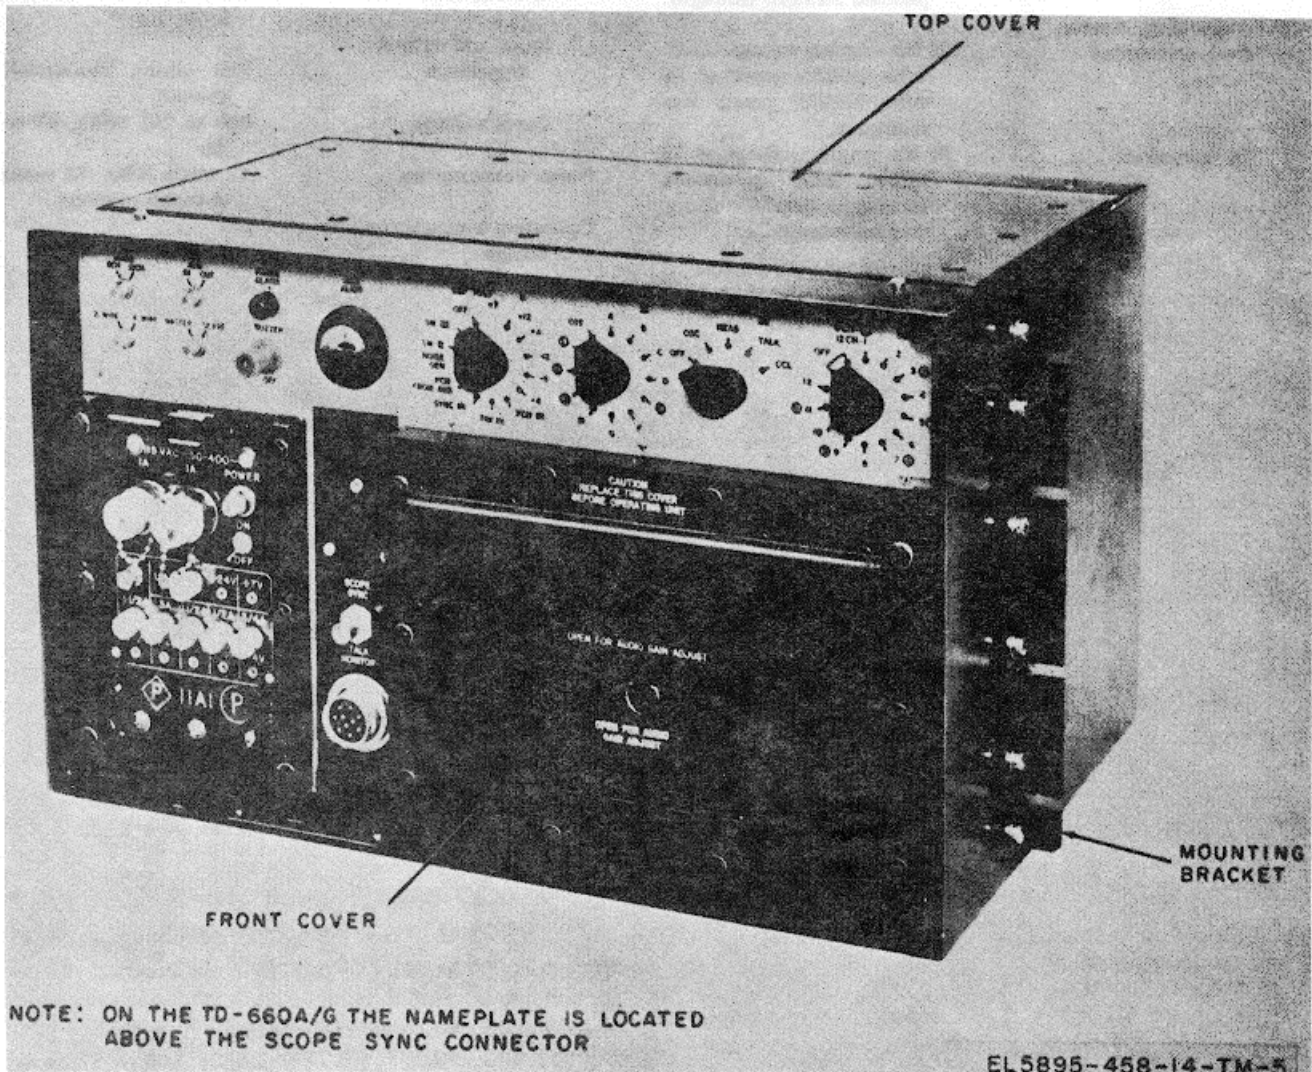

Figure 3-4. Multiplexer TD-660/G.
a. Use. Multiplexers TD-660/G or TD-660A (fig. 3-4) convert 6 or 12 four-wire voice-frequency (vf) channels to a tdm-pcm signal in their transmit sections and vice versa in their receive sections. The TD-660/G is used in nonsecure communication systems, and the TD-660A/G is used in either nonsecure or secure communication systems.
(1) General.